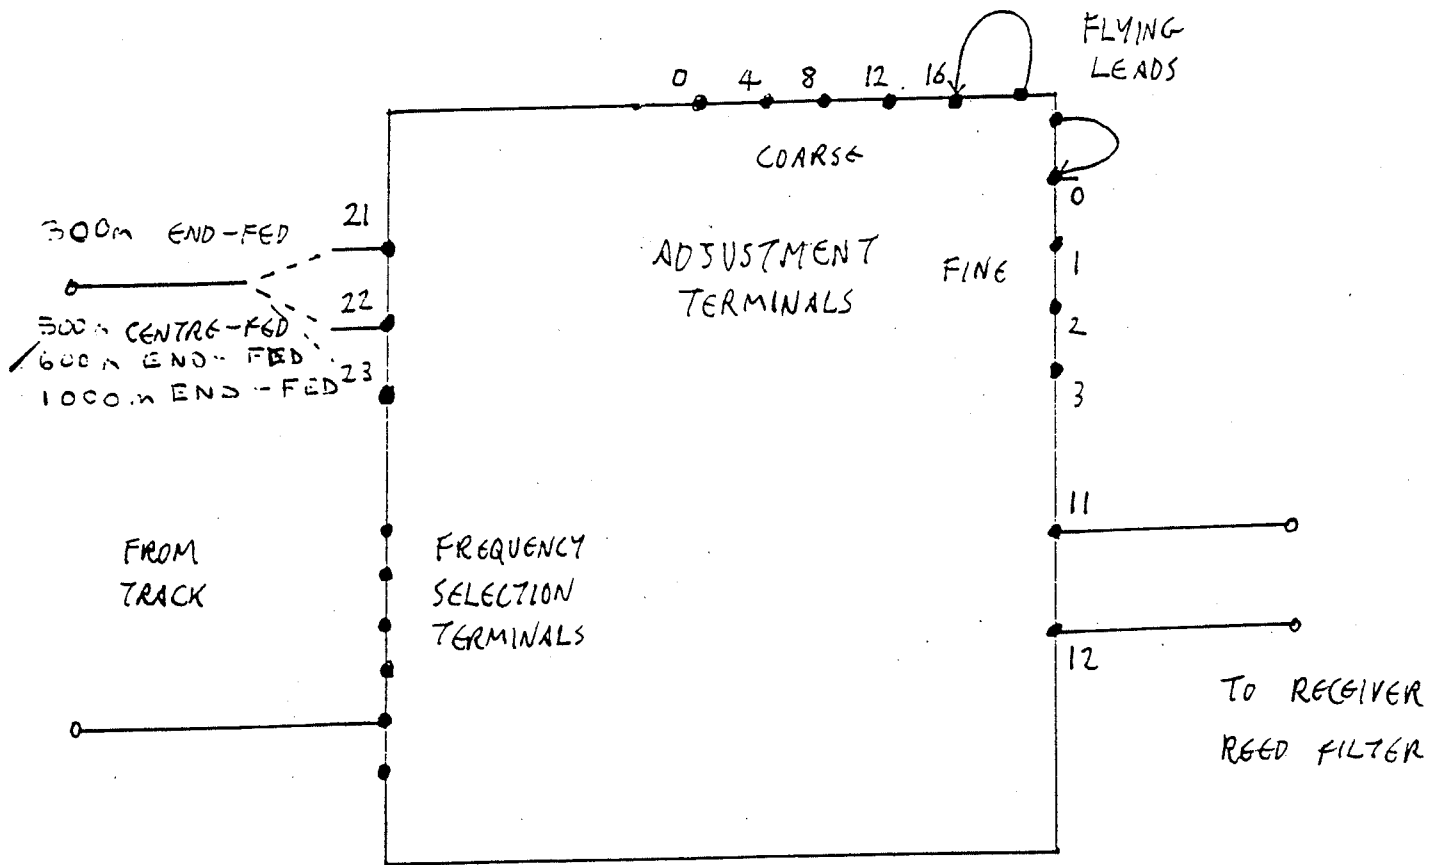

FIG. 2. ADJUSTABLE TRACK FILTER ARRANGEMENT AT RECEIVER END
2.3 COMMISSIONING THE RELAY END (separate values for various configurations and lengths) see fig.2: